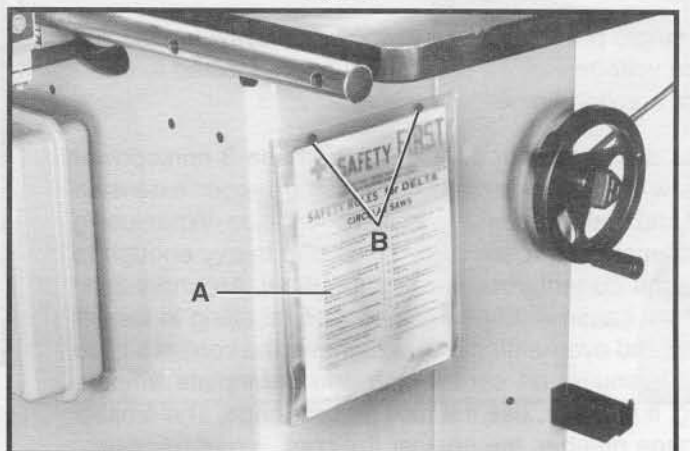

Fig. 40
A literature holder (A) Fig. 40, is supplied with your saw to provide storage and protection for the machine's instruction manual, parts list, etc., so they may be readily available for reference. Two push rivets (B) are supplied to attach the literature holder to the left side of the saw cabinet, as shown.